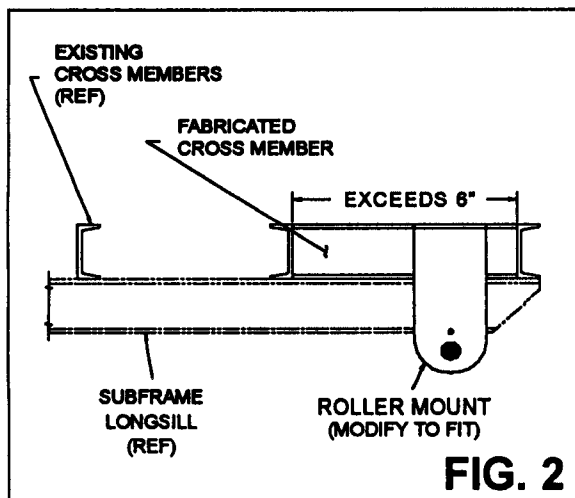

FIG. 2
3. Position center plate [Part No. 63H08] on the rear of the main frame. Weld center plate to truck frame (See Fig. 2 & Additional Notes).
7. Mount license lamp right of the license plate (See Fig. 2) using the fasteners provided (See Fig. 3).
8. Mount junction box on the back left side of center plate (See Fig. 2), using the fasteners provided (See Fig. 3).
3. Some modification to the roller mount bracket may be required for the roller mount to fit properly. If the existing container cross members are wider than 6", a fabricated support member of 1/2" plate or thicker will need to be added (See Fig. 2).